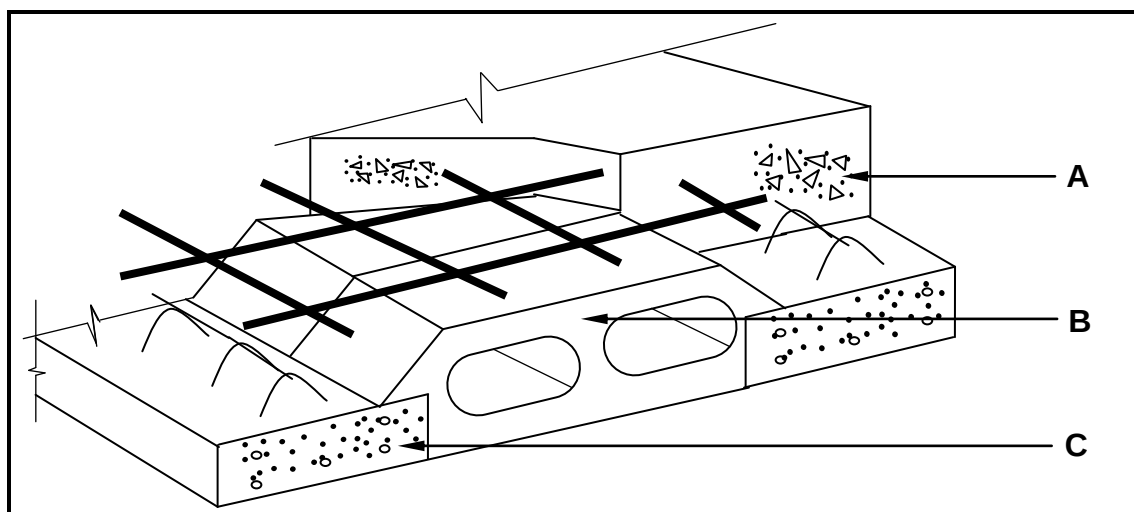

FIGURE 6.5
- 6.5 FIGURE 6.5 below shows a part of a floor construction. Study FIGURE 6.5 and answer the questions that follow.
- 6.5.3 State THREE factors that must be considered when planning this type of construction in FIGURE 6.5. (3)